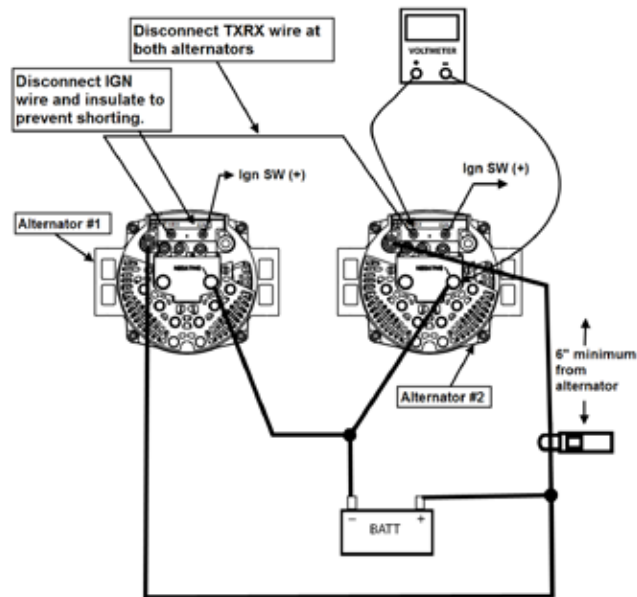

Fig 10
- 3) Connect voltmeter and ammeter per Fig 10. Set voltmeter to read DC